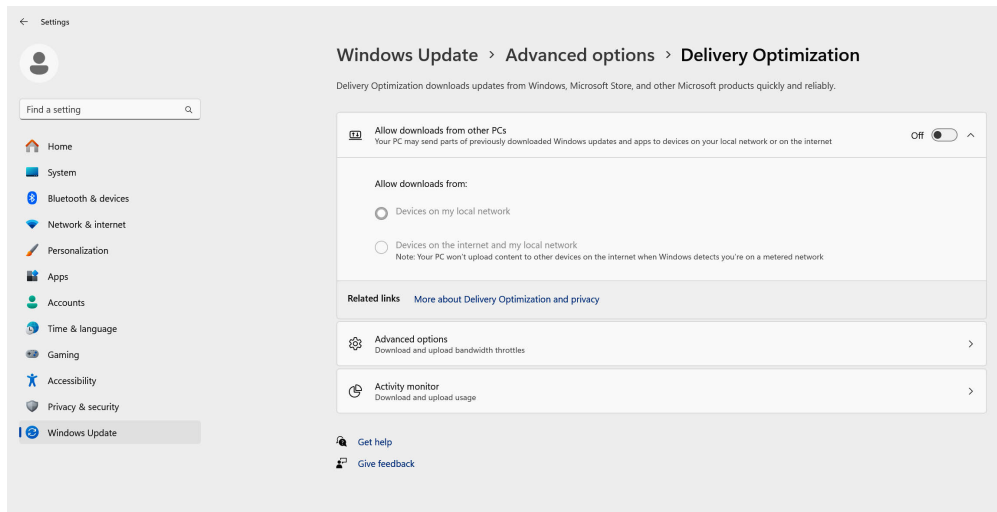

Figure 33: Win 11 Delivery Optimization
3. Next, Click on Delivery Optimization and choose “Allow Downloads from other PCs” - **OFF**. (Fig 33)